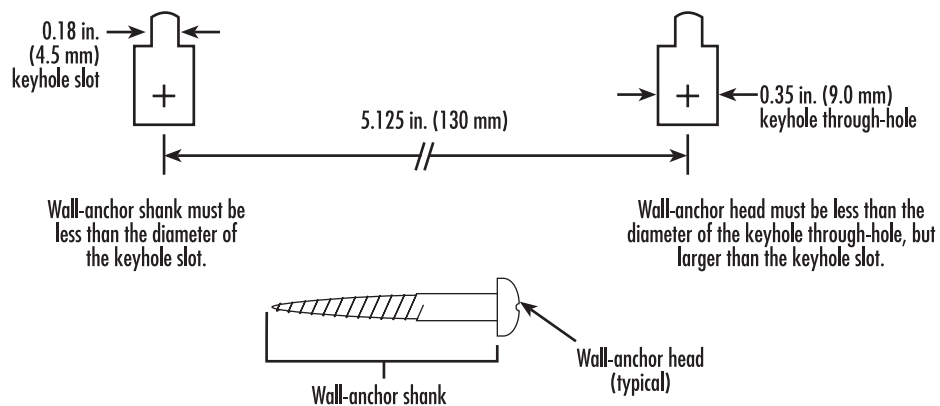

Figure 35. Wall-mounting hole dimensions
- Using figure 35 as a guide, determine the positions of the mounting holes on the wall and mark the locations of the mounting holes.